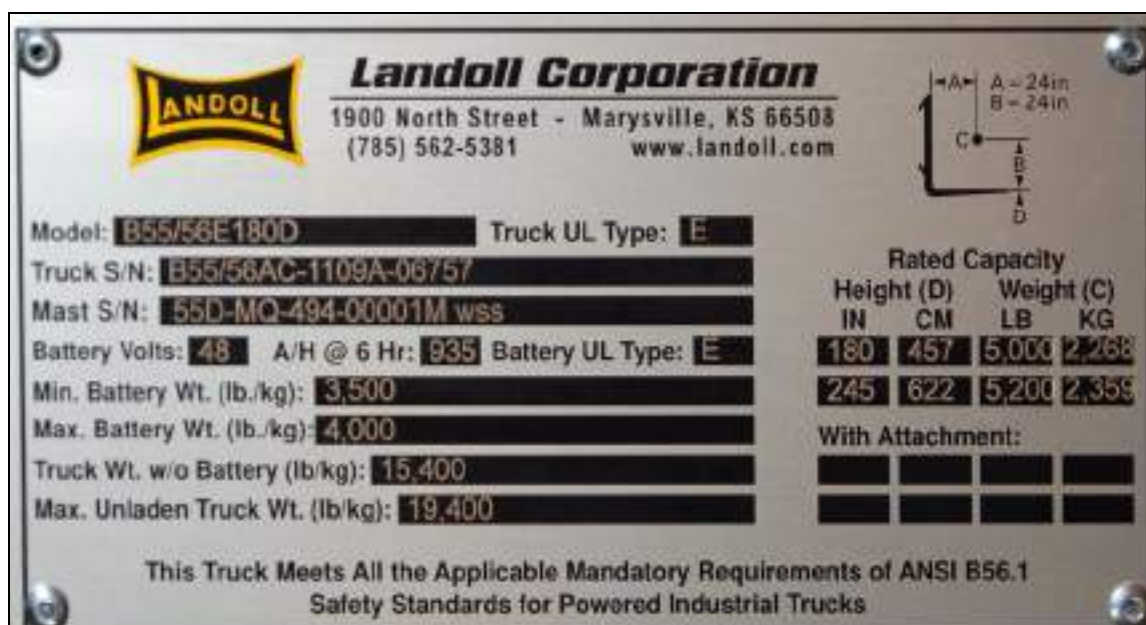

Figure 1-1: Serial and Capacity Plate
When ordering parts that will be used for the repair and maintenance of your Bendi B55 AC truck, the model and serial number of the truck being repaired will be required. This information is located on the serial number and capacity plate located on the right operators console. See Figure 1-1 Only Landoll parts are to be used for any repairs.
- Make certain the charger being used matches the voltage and amperage of the truck battery. This voltage is listed on the truck serial plate. See Figure 1-1